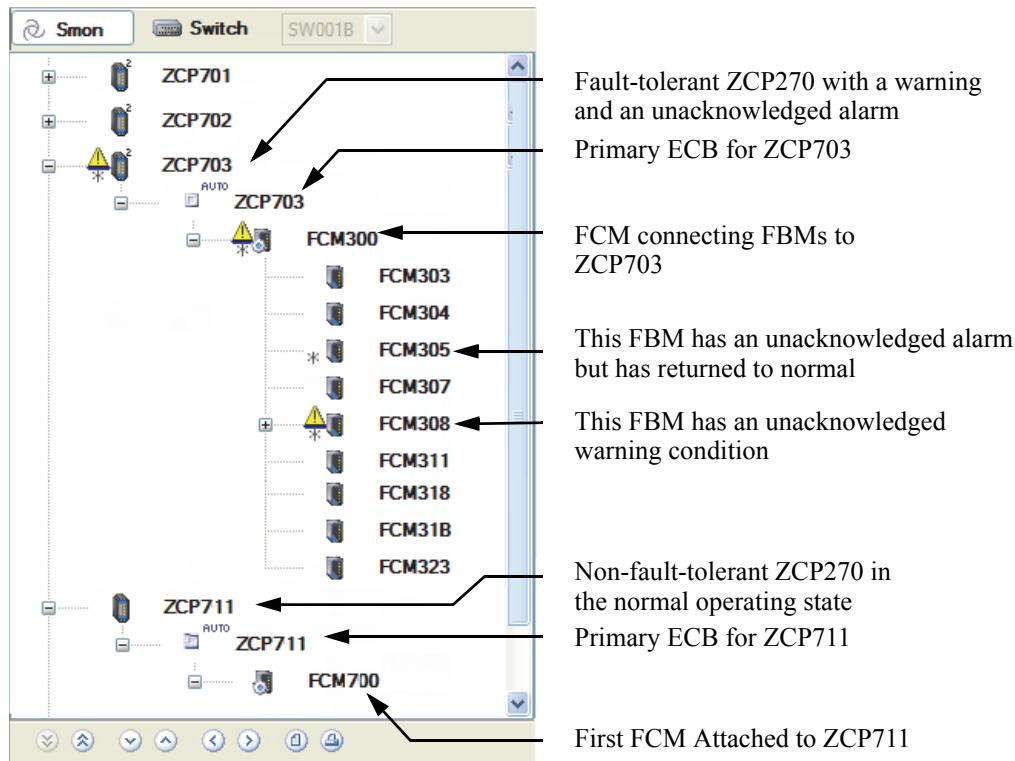

Figure 5-4. ZCP270s and their Primary ECBS (Primary FBMs)
- Fieldbus Communication Modules (FCMs) when the control processor is a ZCP270 or CP60 (Figure 5-4).